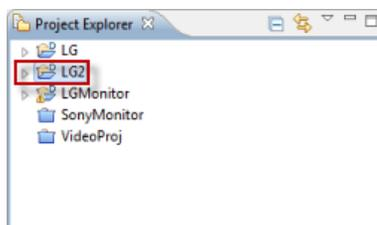

FIG. 23 Project Explorer indicating new Project Name
3. The new Project name is indicated in the Project Explorer (FIG. 23):